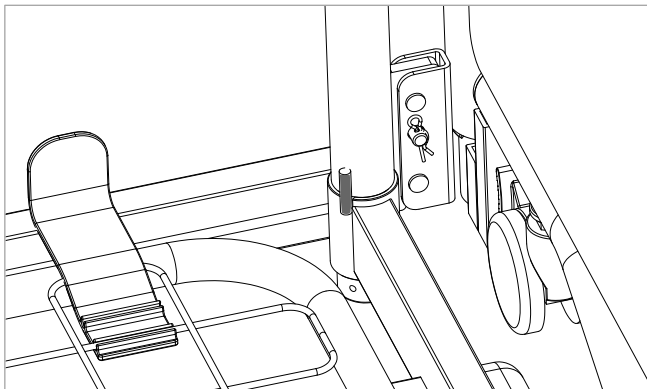

Figure 6.4
3. When the Lifting Pole is fully inserted into the bed tube it should not be possible to rotate it (see Figure 6.4).